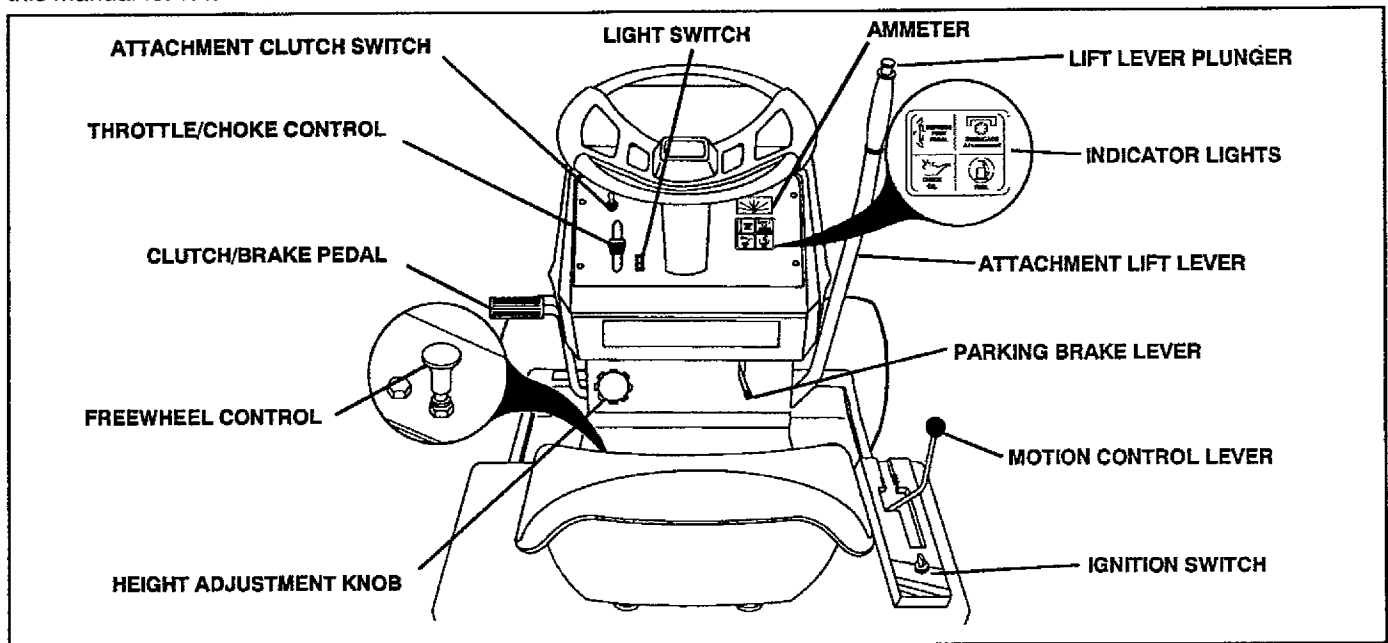

FIG. 6
## BEFORE ROLLING UNIT OFF SKID (See Fig. 6)
## TO MOVE FORWARD AND BACKWARD (See Fig. 6)
- Pull freewheel control knob up to disengage transmission (See Fig. 6).
- Do not push or tow unit at more than five (5) MPH.